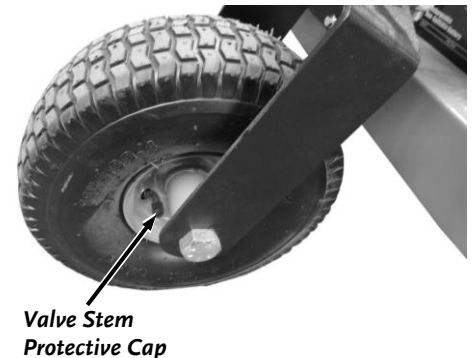

Figure 24
1. Remove the Valve Stem Protective Cap (**Figure 24**) and check the tire pressure with a Tire Pressure Gauge.
Note: Figure 24 shows the fixed rear Wheels. Use the same procedure for the front Caster Wheels.
Note: Close the Fuel Shut-Off Valve on the Pro XL60TF Model when transporting or storing the DR TOW-BEHIND FINISH MOWER (**Figure 24**).